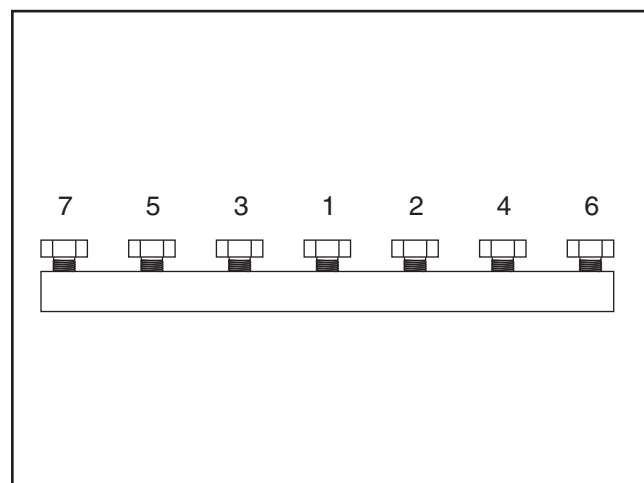

Figure 25. Gib bolt tightening sequence (planing knives).
9. Tighten the gib bolts in the order indicated in **Figure 25**.